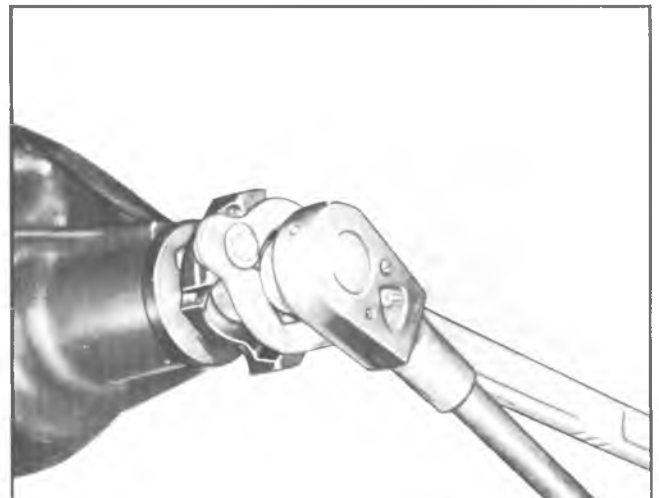

Fig. 24—Drive Pinion Nut Removal
5. Install Tool J-8614-1 on pinion flange and remove pinion flange nut (fig. 24). (Position J-8614-1 on flange so that the four notches are toward flange.) Discard nut and use a new one upon reassembly.